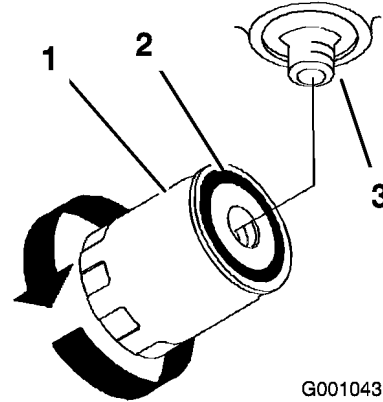

Figure 69
7. Apply a thin coat to the rubber gasket on the replacement filter (Figure 69).
9. Fill the hydraulic tank with hydraulic fluid until the fluid overflows the filter and then turn the oil filter clockwise until the rubber gasket contacts the filter adapter, then tighten the filter an additional 1/2 turn (Figure 69).